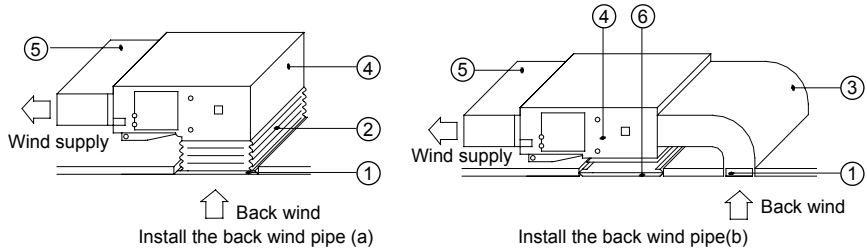

Fig. 12
- (2). If the bottom return (up flow) air is desired, just switch the rectangular flange and the return air cover plate.
- (3). Connect one end of the return air duct to the return air outlet with rivets and the other to the return air louver. For convenience a cutting of canvas transition duct can be used. It can be reinforced and folded with #8 iron wire.
- (4). More noise is likely to be produced in the bottom return air mode than the back return air mode. A muffler and a plenum box can minimize the noise.
- (5). The installation method can be selected based on building conditions and required maintenance, etc. See Fig. 12.